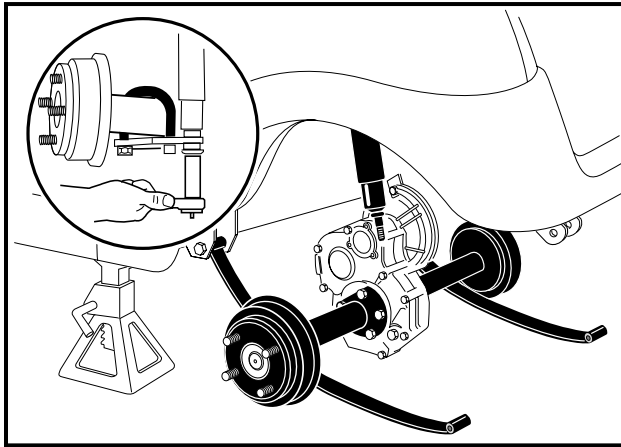

Figure 15-4 Lower Axle
- To gain easier access to the motor, lower the transaxle as low as it will go. If more room is needed, remove the jack from beneath the transaxle and allow the springs to rest on the floor (**Figure 15-4, Page 15-4**). See following **WARNING**.